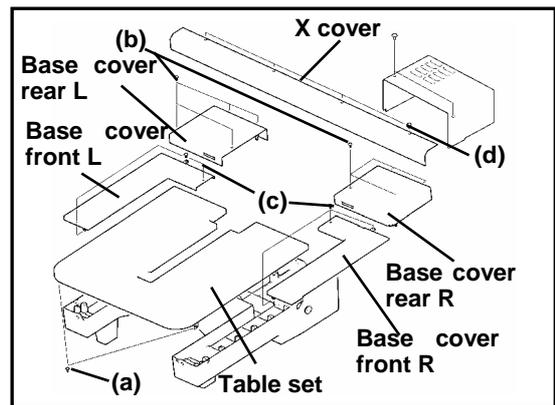

FIG.1
- (1) Remove two setting screws (a) and then remove the table set. (Fig.1)
- (2) Remove four each set screws (b) and then remove base cover rear R and L. (Fig.1)
- (3) Remove three each set screws (c) and remove base cover front R and L. (Fig.1)
- (4) Remove four set screws (d) and remove X cover. (Fig.1)